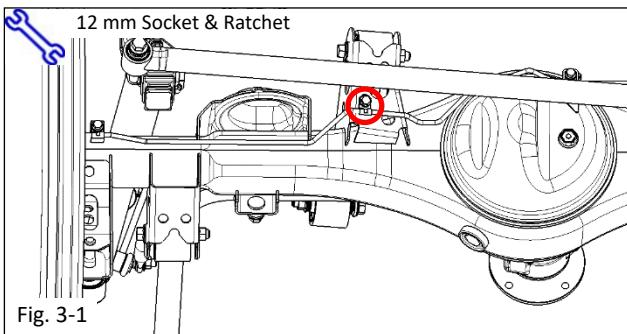

Fig. 3-1
- Remove 1 bolt from the rear brake line bracket, retain for re-installation (Fig. 3-1).